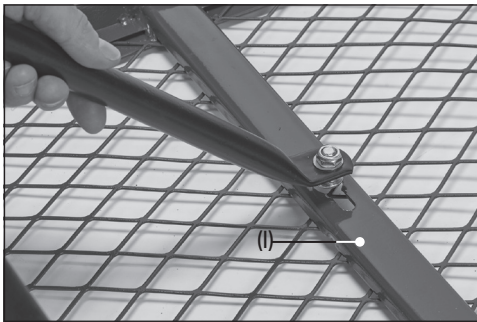

Fig. 9
1. Insert the head of the bolt attached to a front strut (l) through one of the keyholes towards the front end of the cage bed. (Fig. 9).